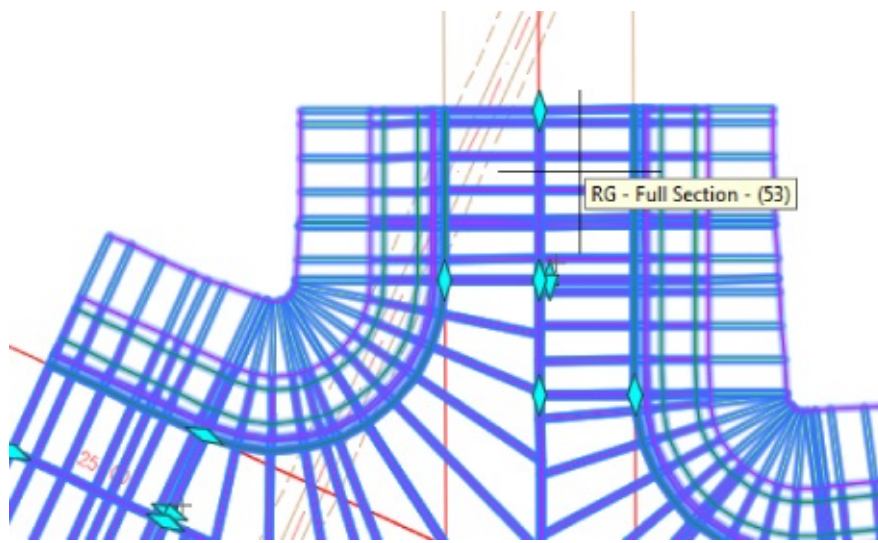

Figure 10.34 Selecting the RG - Full Section region along ROAD B north of the intersection.
28. At the Select a region to edit: prompt, select the RG - Full Section region along ROAD B north of the intersection, as indicated by Figure 10.34.